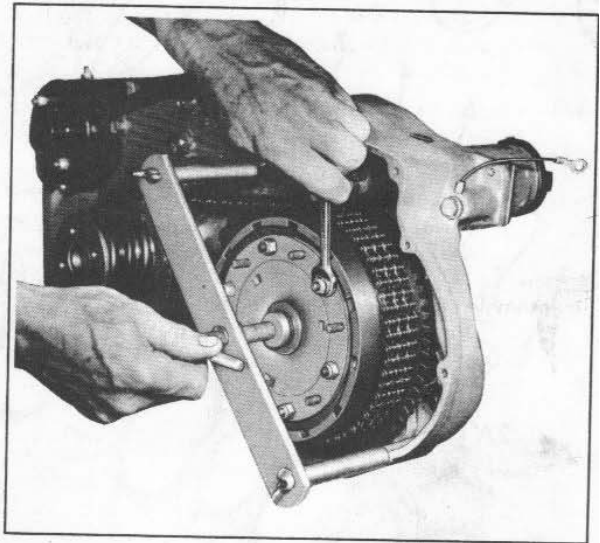

Figure 4-10. Compressing Clutch Spring to Disassemble Clutch
Remove hex head retainer nuts (1) and retainers (2 or 2A) (if used). Install Clutch Spring Compressing Tool, Part No. 97178-71, on crankcase by screwing into the crankcase cover screw holes shown in Figure 4-10. Compress releasing disc (4 or 4A) with tool to take pressure off nuts (3) and remove nuts. Back off center screw of tool and remove releasing disc (4 or 4A) and spring (7 and 8). Remove tool. Remove retaining ring (9) from groove in clutch shell (17). All clutch plates (11 or 11A and 12), outer drive plate (10) and pressure plate (13) and stud spacers (4B) (if used) will come out as a unit by pulling on pressure plate studs.
Install Clutch Spring Compressor Tool, Part No. 97178-71 on crankcase (see Figure 4-10). Install springs (7 and 8) and releasing disc (4 or 4A) under tool screw. Compress parts so that pressure plate (13) studs enter 6 holes in releasing disc to start nuts (3) on threads (see Figure 4-8). Remove tool.